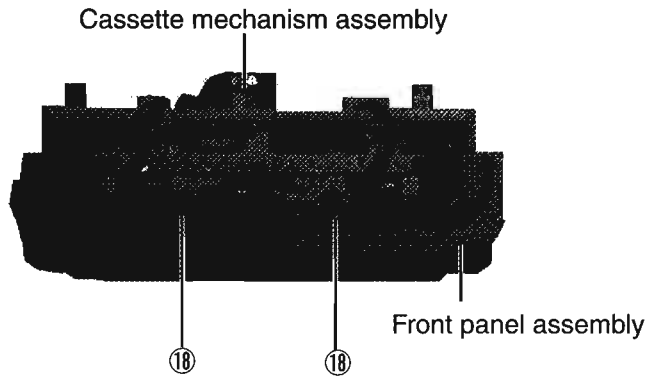

Fig. 16
6. Remove the two screws ⑱ fastening the cassette mechanism assembly from the bottom side of the front panel assembly. (See Fig.16)